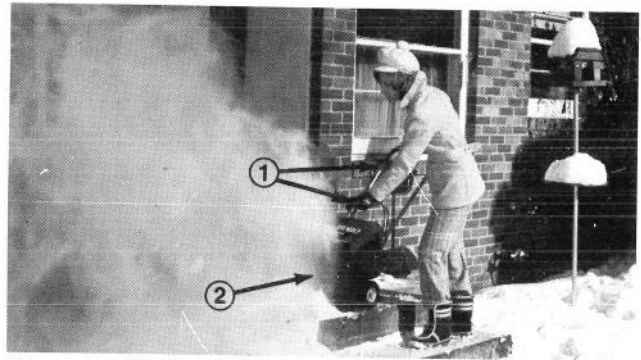

Figure 10
5. When clearing snow from steps or cutting through deep drifts, hold snowthrower by the upper and lower handles and use a sweeping side to side motion (Fig. 10).